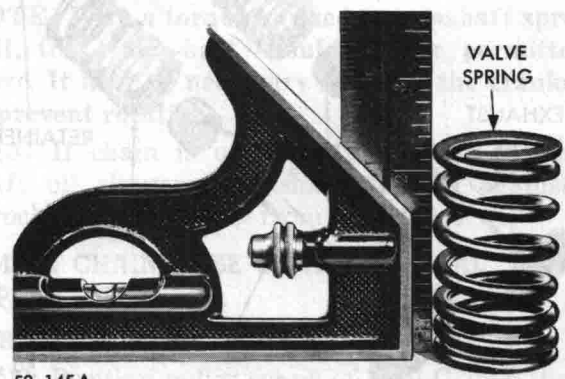

Fig. 24—Checking Valve Spring Squareness
(2) Inspect each valve spring for squareness with a steel square and surface plate, as shown in Figure 24.
(3) If the spring is more than  $\frac{1}{16}$  inch out of square, install a new spring.